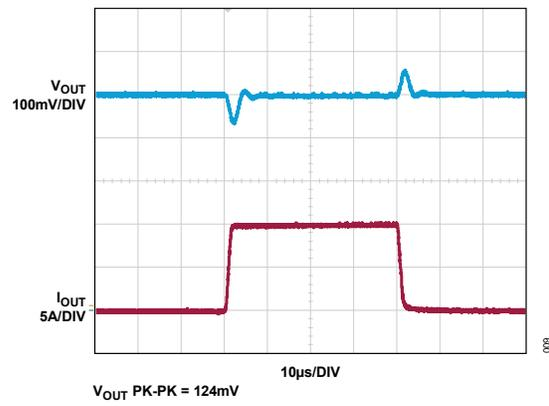

Figure 9. Load Step Response, $V_{IN} = 3.3V$, $V_{OUT} = 0.5V$
9. Measure the J2 voltage over the $R_{SNS} = 2m\Omega$ to observe the current. It is recommended to use the MMCX plug on J2 to accurately measure the R_{SNS} voltage. Adjust the amplitude of the external pulse, V_{EXT} , to provide the desired transient. Adjust the rising and falling edges of the pulse to provide the desired ramp rate. Figure 9 shows a load step from 0A to 5A in 1µs (see Equation 1 and Equation 2).